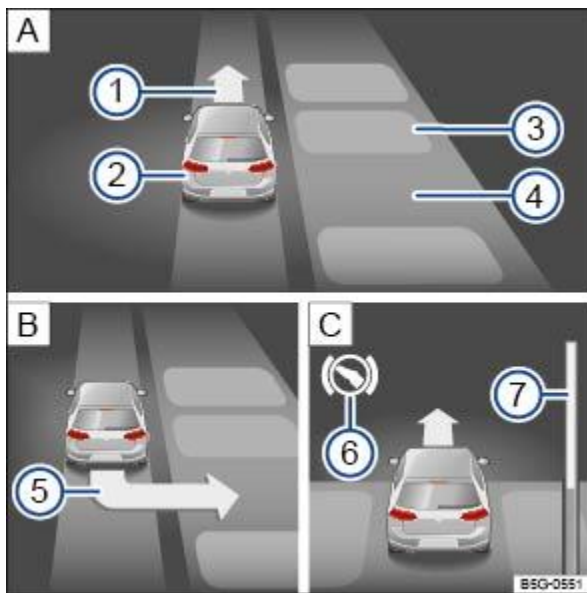

Fig. 131 On the instrument cluster display: parking perpendicular to the road.
Drive into the parking space when a corresponding prompt ⇒ Fig. 131 **5** is shown on the instrument cluster display ⇒ Driving into a parking space .
Key to ⇒ Fig. 131 :
Brake when an acoustic signal sounds to indicate that you should change direction, an arrow ⇒ Fig. 131 ① **A** lights up, the display lights up or a message is shown.